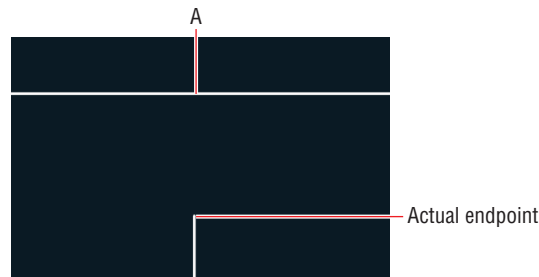

FIGURE 3.10 Zooming in reveals that the lines do not meet.
- Press **Z** and then **Enter**. Click two points to define a tightly cropped zoom window around point A. Zoom in again if necessary until you can see that the endpoint of the line you just drew is not on the horizontal line (see Figure 3.10). No matter how carefully you clicked point A in the previous step, the line you drew will not be on the edge (it will either fall short of it or overshoot it).